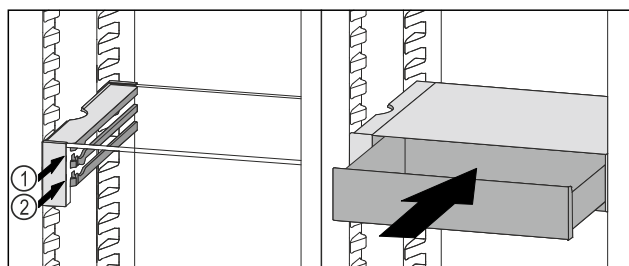

Fig. 60
- ▶ Place the VarioSafe drawer behind the stoppers on desired rib Fig. 60 (1) or Fig. 60 (2).